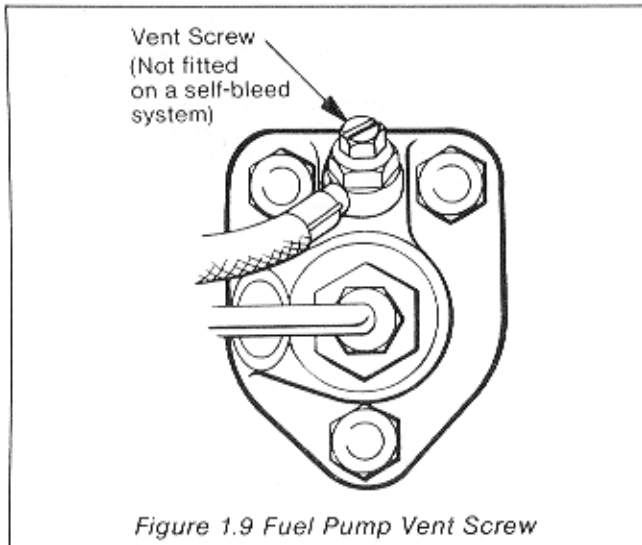

Figure 1.9 Fuel Pump Vent Screw
Most 'A' range engines are fitted with a self-bleeding pipe assembly in place of the fuel pump vent screw (Figure 1.9) and require no action.
**1.44** On engines not fitted with a self-bleeding fuel system, move the STOP/RUN (3) lever to the RUN position, that is horizontal. Loosen the vent screw (Figure 1.9) on the fuel injection pump. When clean air free fuel flows out tighten the vent screw.